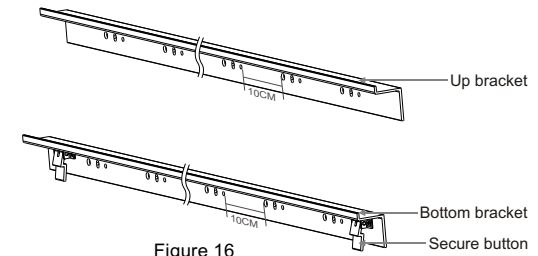

Figure 16
6. There is locking system on the Bottom bracket but no on the Top bracket, brackets' length are at half of Horizontal frames'. And there is 5 groups of holes on each brackets with 10cm distance, each group has 3 holes at $\varnothing 5$ $\varnothing 8$ & $\varnothing 6$ from left to right. Brackets are suggested to mount at the middle point of frame with only 30% fluctuation if needed. (Figure 16)